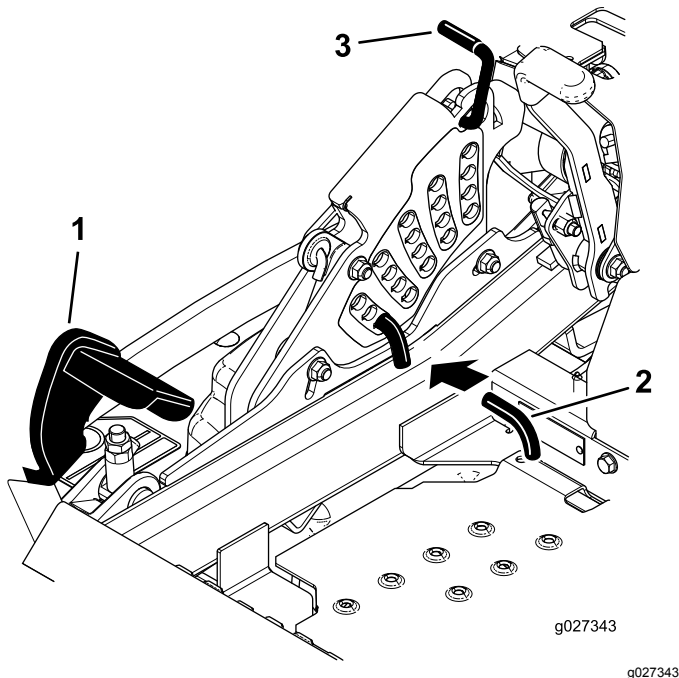

Figure 99
5. Push the deck-lift pedal all the way forward and the deck latches at the 14 cm (5-1/2 inches) transport position (Figure 99).